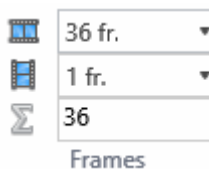

Figure 8.
2. Choose the number of frames (Fig. 8).